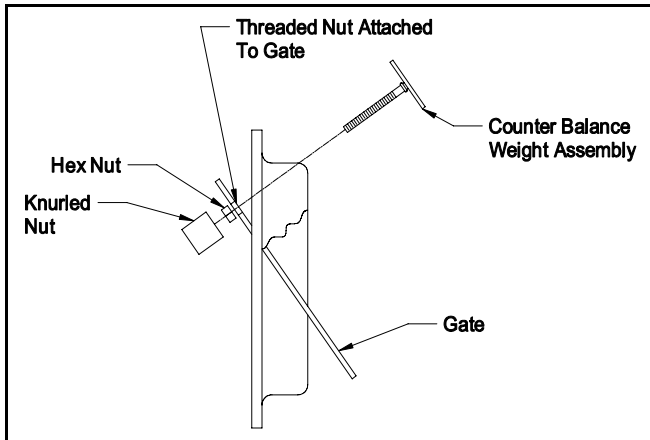

Figure 7
3. Assemble VRV balance weight onto the gate. Screw the weight all the way in. Then attach lock nut and knurl nut. (See Figure 7)